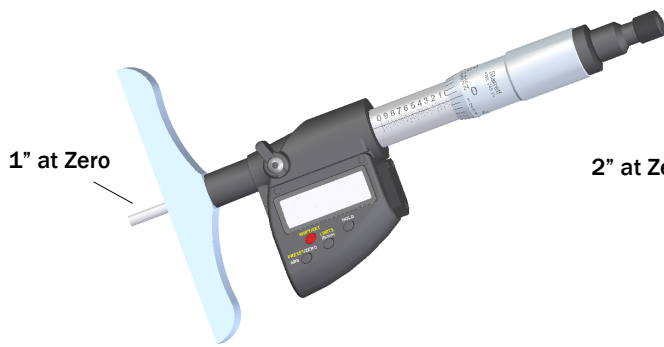

Fig.14A, 749.1BZ 1"-2" Rod
2. Fig.14A, Shows a 1"-2" rod, notice at zero the rod is 1" past the base. The measurement starts at 1" and ends at 2 inches. In this case you will add 1" to the reading on the Micrometer head.